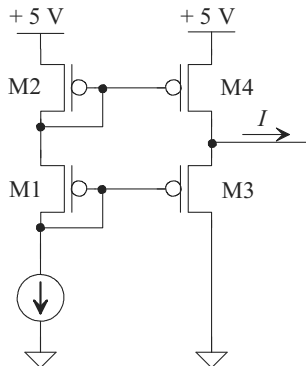

Figure 9.43 Schematic for Problem 9.8.
9.8 Describe qualitatively what happens if we steal or inject a current at the point indicated in Fig. 9.43. How does this affect the operation of M1 and M2? Verify your answer with SPICE.